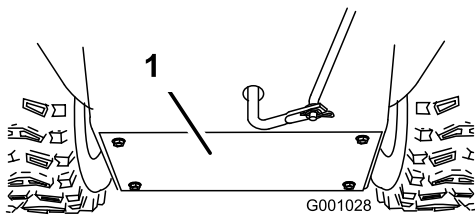

**Figure 46**
Lightly lubricate the hex shaft yearly with automotive engine oil (Figure 46).
**Important:** Do not get oil on the rubber wheel or the aluminum friction drive plate because the traction drive will slip (Figure 46).